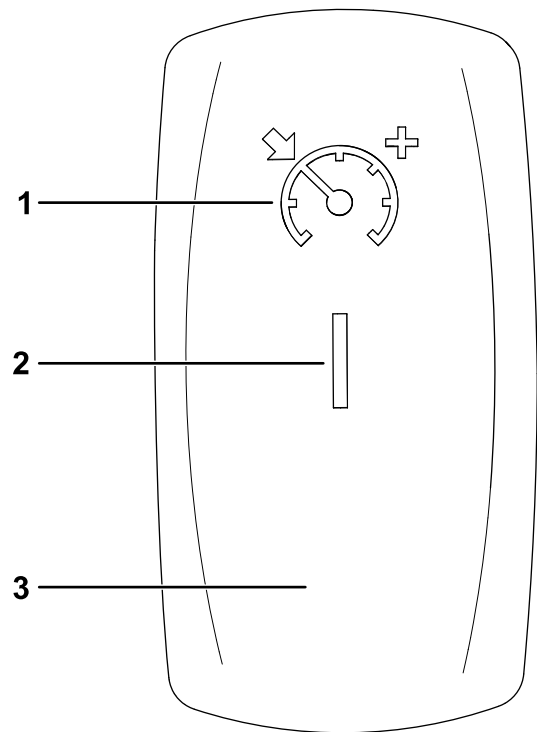

Figure 46
1. Move the cruise control switch to the ON position (Figure 46).
2. When you reach the desired drive speed, press the cruise control switch up to engage/set the cruise control (Figure 46).
To increase the cruise control speed, press the switch up until you reach the desired speed (Figure 46).
To disengage cruise control, press the switch to the down, OFF position (Figure 46).